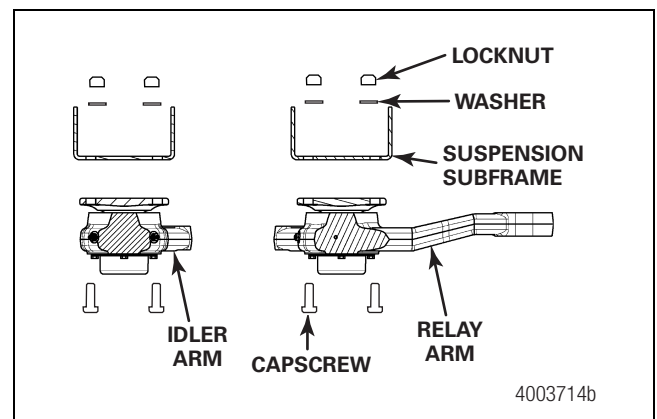

Figure 5.16
2. Loosen, but do not remove, the eight capscrews that secure the idler and relay arm assemblies to the suspension subframe. Lower the idler and relay arm assemblies so that the relay rod clears the subframe. This will provide more room to work when removing the castle nuts. Figure 5.16.
4. Remove the four locknuts, capscrews and washers that secure the relay arm assembly to the suspension subframe. Remove the relay arm assembly. Figure 5.16.
5. Remove the four locknuts, capscrews and washers that secure the idler arm assembly to the suspension subframe. Remove the idler arm assembly. Figure 5.16.